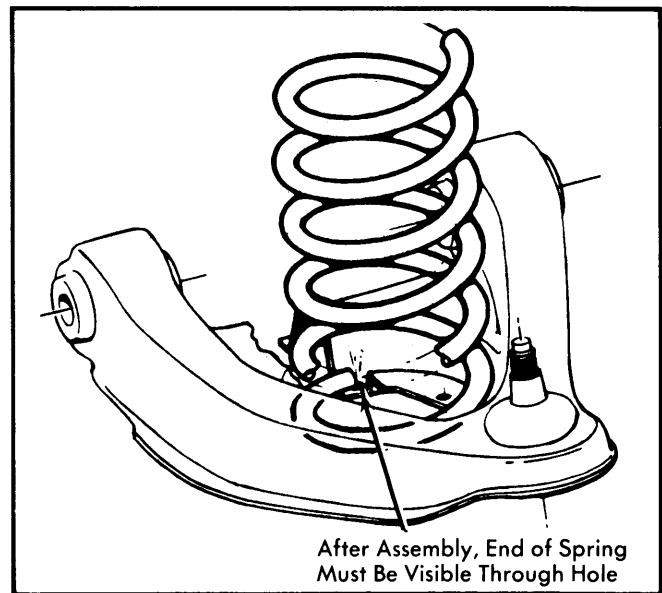

Fig. 3 View Showing Coil Spring Installed Position
**Installation** — Position coil spring in spring tower as shown in Fig. 3. Guide lower control arm ball joint stud into place in steering knuckle and install stud nut. Tighten stud nut to specifications and install cotter pin. Remove safety chain. Connect tie rod end to steering knuckle. Install shock absorber, stabilizer bar (if equipped), and wheel.